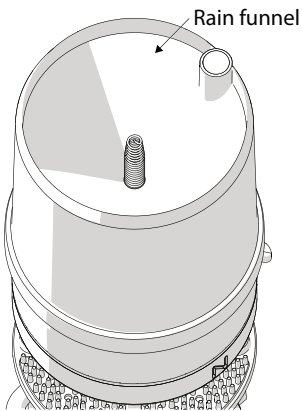

Figure 15 Rain funnel and pyranometer
- a. Rain funnel (Figure 15)
- b. Pyranometer (Figure 15)